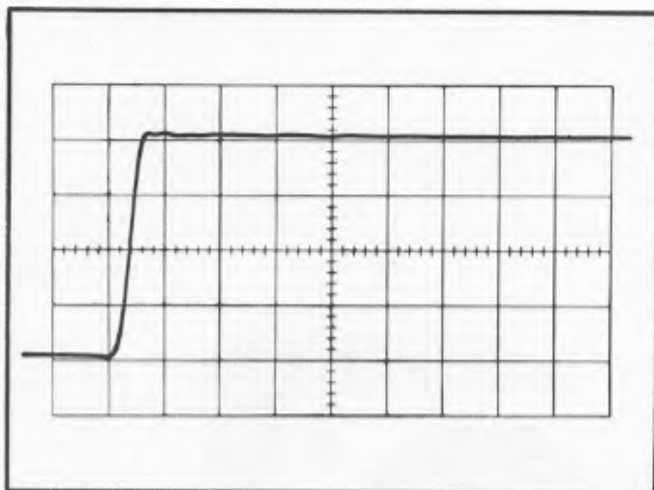

Fig. 6-21. Waveform of a correctly compensated vertical amplifier shown at a sweep rate of 10 ns/cm.
g. CHECK—Waveform overshoot, rolloff, tilt and ringing for an amount less than 3% of the total waveform amplitude and waveform preshoot for an amount less than 2.5% of the total waveform amplitude, see Fig. 6-21. The checks should be made using the time/cm switch and the approximate area of effect columns in Table 6-2.